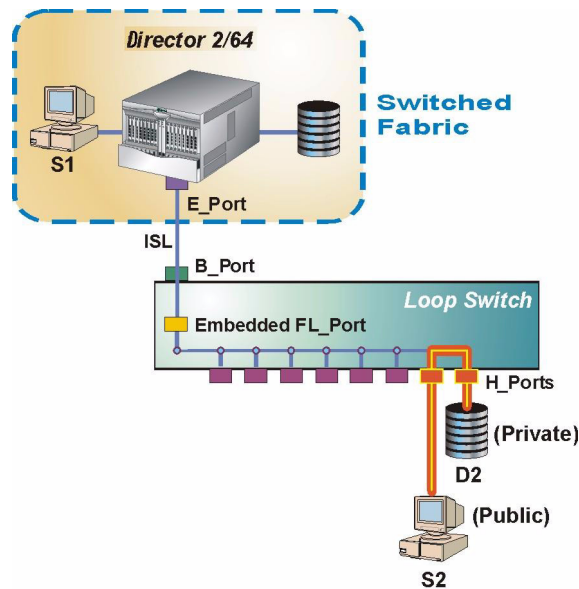

Figure 24: Private device connectivity
- **Private device** — A loop device that cannot transmit an FLOGI command to the switch nor communicate with fabric-attached devices is a private device. As shown in Figure 24, device **D₂** is a private loop device that cannot communicate with any fabric-attached device. However, device **D₂** can communicate with switch-attached server **S₂** (using private addressing mode).